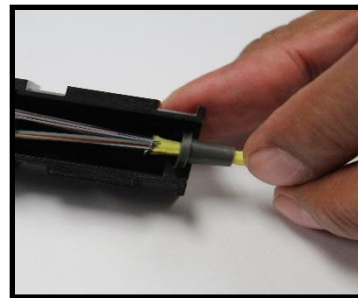

Figure 9
7.1 Seat the 3.8mm or 4.0mm Bushing and Fiber Bundle as shown into the Breakout Base. **See Figure 9.**